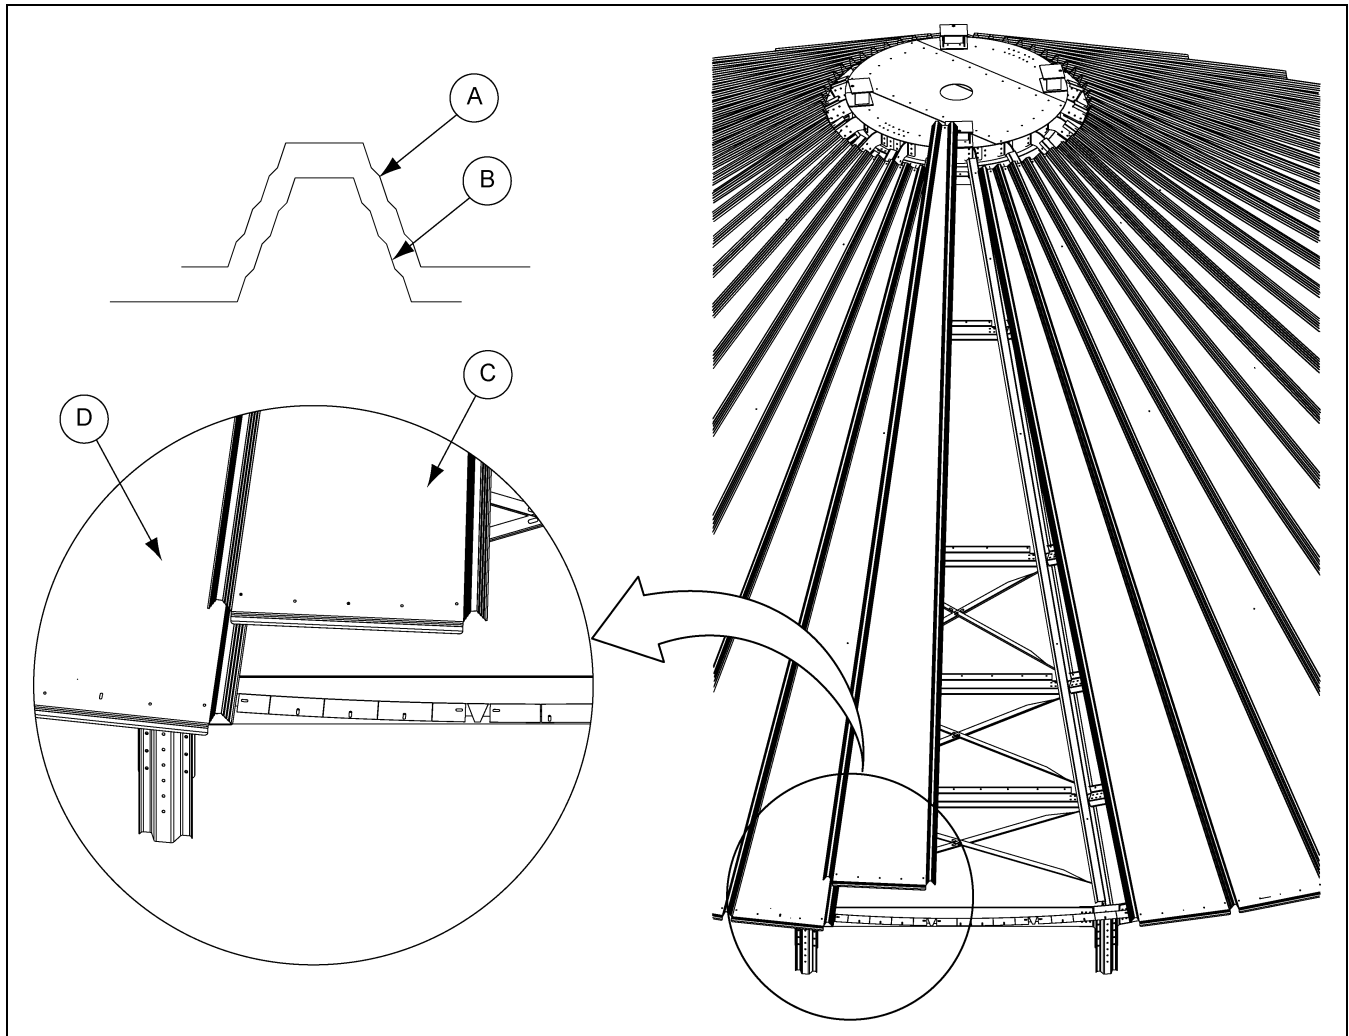

Figure 2 Installing the First Vent/Explosion Panel
1. Position the first of the three (3) vent/explosion panels (C) on top of the adjacent standard panel (D) in any one of the four (4) open locations (bays) and secure it with the clamps. *(See Figure 2.)*